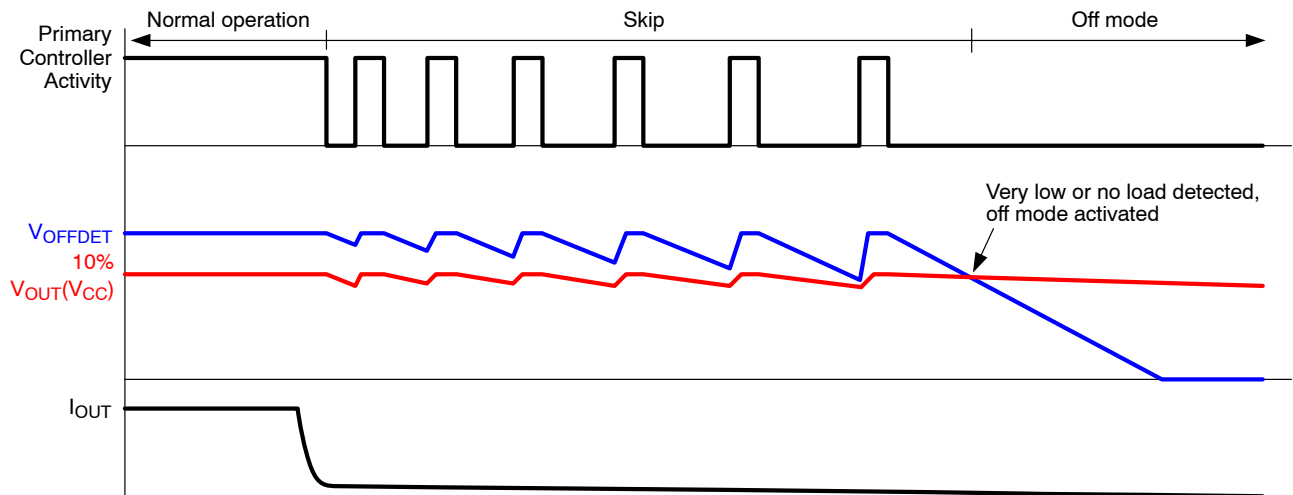

Figure 27. OFF Mode Detection
The OFF mode detection is based on comparison of output voltage and voltage loaded with fixed resistances (D2, C2, R7 and R8). Figure 27 shows detection waveforms. When output voltage is loaded with very low current, primary controller goes into skip mode (primary controller stops switching for some time). While output capacitor C1 is discharged very slowly (no load condition), a fixed load R7 and R8 discharges the capacitor C2 faster than load current discharges output voltage on C1.
While both C1 and C2 are discharged during the missing cycles, C2 discharge will be faster than C1 without output current,  $V_{OFFDET}$  drops below  $V_{OFFDETTH}$  and OFF mode is detected (7). This situation is shown in Figure 27 in detail. When OFF mode is detected, current into ONOFF pin stops to flow (7) and voltage at primary REM pin increases over threshold level that forces primary controller into OFF mode. Internal pull-up current  $I_{BIASV}$  is switched on (7), VSNS pin voltage increases (thanks to  $I_{BIASV}$ ) and voltage amplifier sinks reduced current (at time (8)), when VSNS is higher than  $V_{REF}$  (9), to keep primary FB voltage below switching level until REM pin voltage is high enough.  $I_{BIASV}$  current stops when VSNS voltage drops below 90% of  $V_{REF}$ .